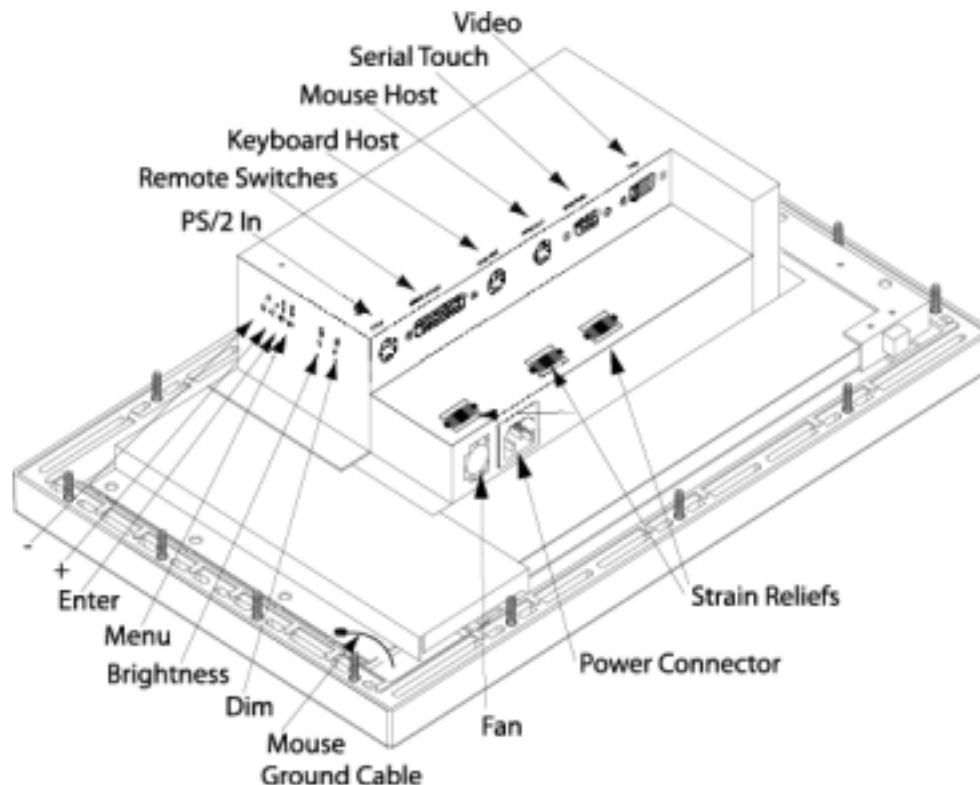

Figure 1-3. 3015KPM Back Panel
**Grounding the 3015KPM:** Provided is a 4-foot braided ground cable. This cable is required in order to comply with CE Marking electromagnetic immunity standards. Remove the mouse ground cable screw (refer to figure 1-3) in the lower left hand corner of unit and remove the ground lug. Place the ground lug from the 4-foot cable onto the chassis. Place the already existing ground lug on top of that and replace the screw. The 4-foot braided ground cable may be cut to the length needed if desired. An additional ground lug is provided in the doc kit to replace the one that will be discarded if the cable is cut to a new length. Attach the free end of the new cable to a protective earth (PE) ground within your system.